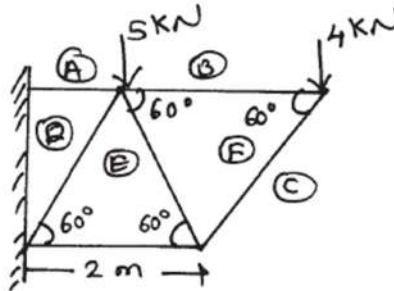

Fig. No. 6
- 15 cantilever truss as shown in Fig. No. 6. Find the forces in the member BF, EC, EF and FC method of Joint.